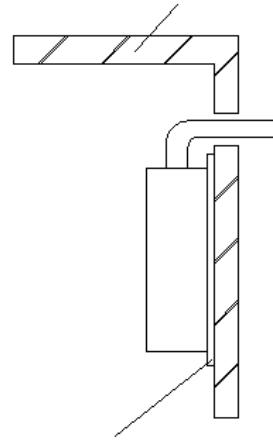

Fig. 8
- When the installation parts' materials are combustible or flammable should be used frame-proof board to isolate,heat-resistant plate and wall gap should be greater than 10mm, and the size of heat plate should be larger than water heater shell for 10mm. (Fig. 8)